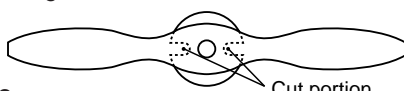

Fig.2
- * Because of the above conditions the propeller should be mounted to the hub as shown in (Fig. 2) and quickly flipped within the range of about 180° from the horizontal position.